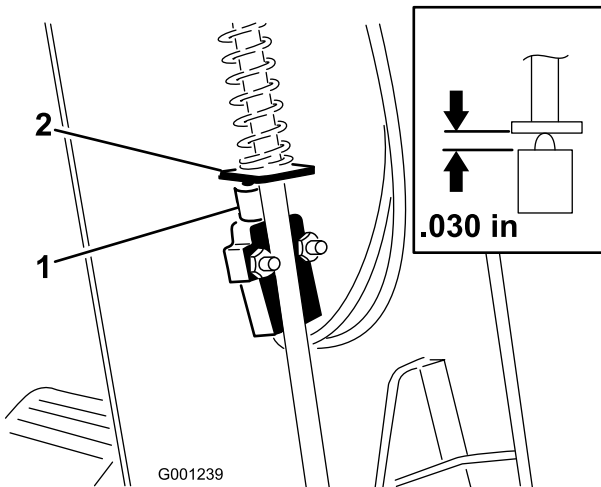

Figure 76
3. Slide the cover up the steering shaft to expose the parking brake switch (Figure 76).
5. Align the paddle of the parking brake rod with the switch plunger (Figure 76)
6. Press down on the parking-brake rod and push up the switch until the compressed length of the switch plunger is 0.7 mm (0.030 inches) (Figure 76, inset).